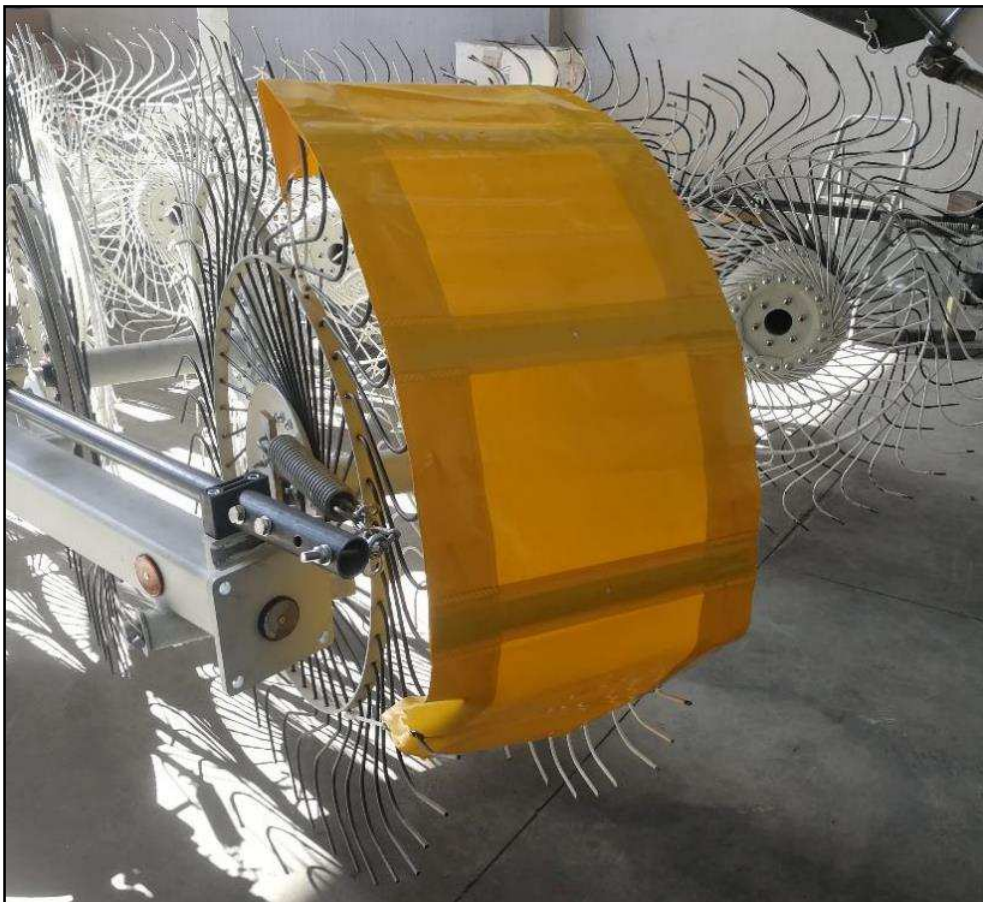

Figure 19
- Place specific reinforced protective covers over the front star wheels (see Figure 19 - Figure 20 - Figure 21).